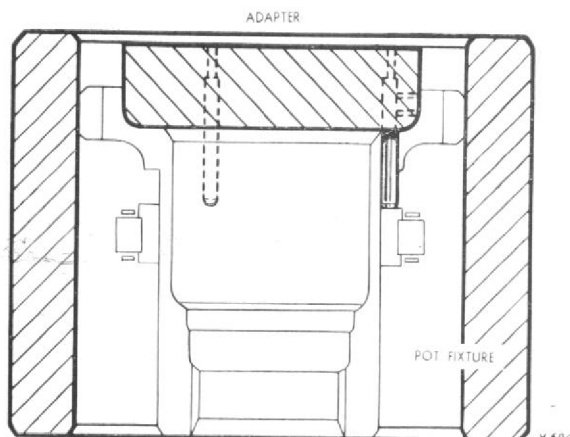

Fig. 10. Pot fixture T.77740 and adapter T.77742 for pressing the inner roller race off the upper driving gear.
3. Place the gear and inner roller race, gear uppermost, on pot fixture T.77740 and position the three pins of adapter T.77742 in the holes provided in the gear web; press off the inner roller race for the first $\frac{1}{2}$ in., Fig. 10; remove the adapter.